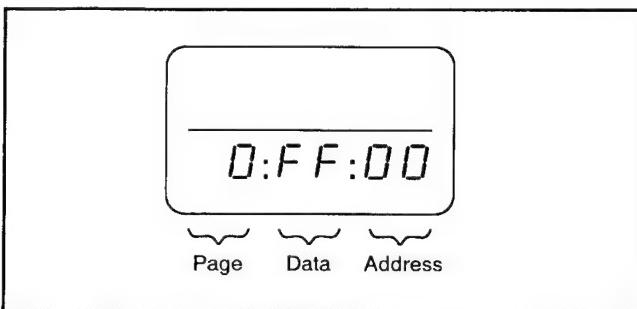

Fig. 6-4-1.
- If it has been properly connected, the LCD on the adjusting remote commander will display as shown in Fig. 6-4-1.